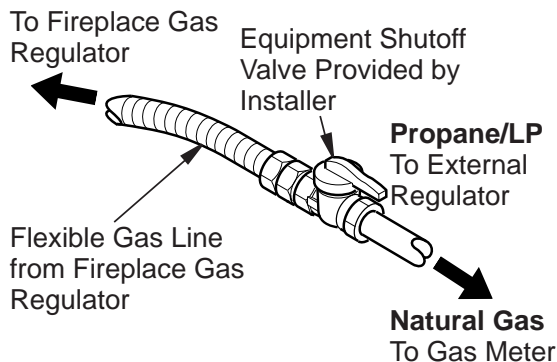

Figure 20 - Attaching Flexible Gas Lines Together
4. Attach the flexible gas line to gas supply (see **Figure 20, Page 16**). Check tightness of flexible gas line attached to gas regulator of fireplace (see **Figure 20, Page 16**).
NOTICE: Most building codes do not permit concealed gas connections. A flexible gas line is provided to allow accessibility from the fireplace (see Figure 20). The flexible gas supply line connection to the equipment shutoff valve should be accessible.